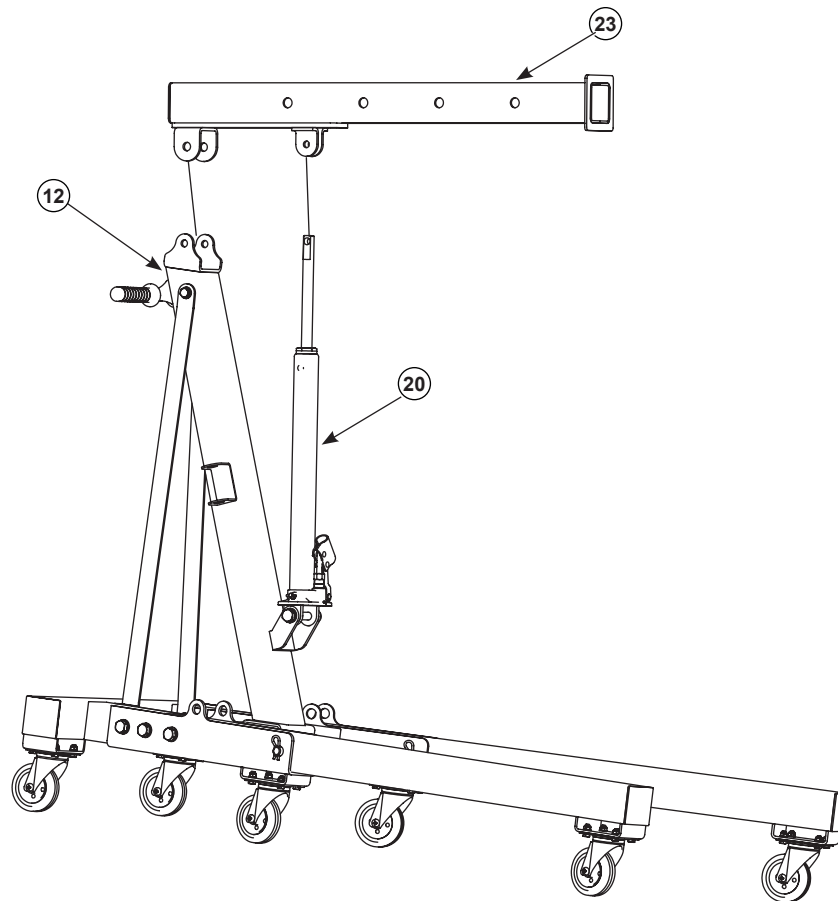

Figure 14 Boom Installation (1 of 3)
See Figures 14 through 16. Also, refer to Figure 1.
1. See Figure 14. Position boom (23) to boom support post (12) and ram (20).